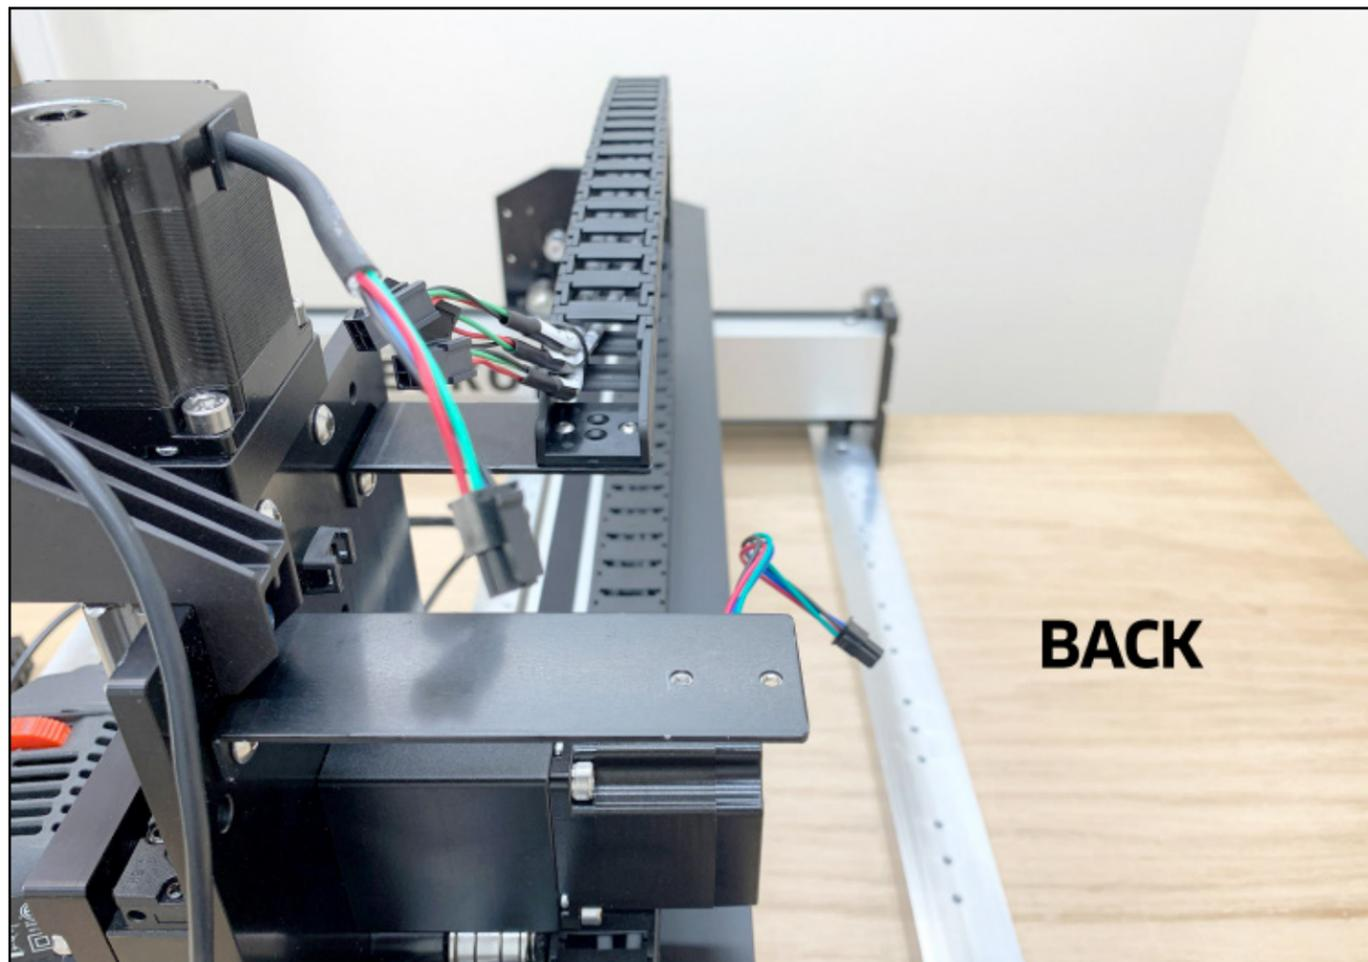

Figure 7-8
1. Position the router drag chain head bracket on the back of X/Z assembly (see **Fig. 7-8**):
2. Use a 3mm hex key and two (2) M5×6mm BHCS to secure the head bracket to the X/Z assembly. Fully tighten.